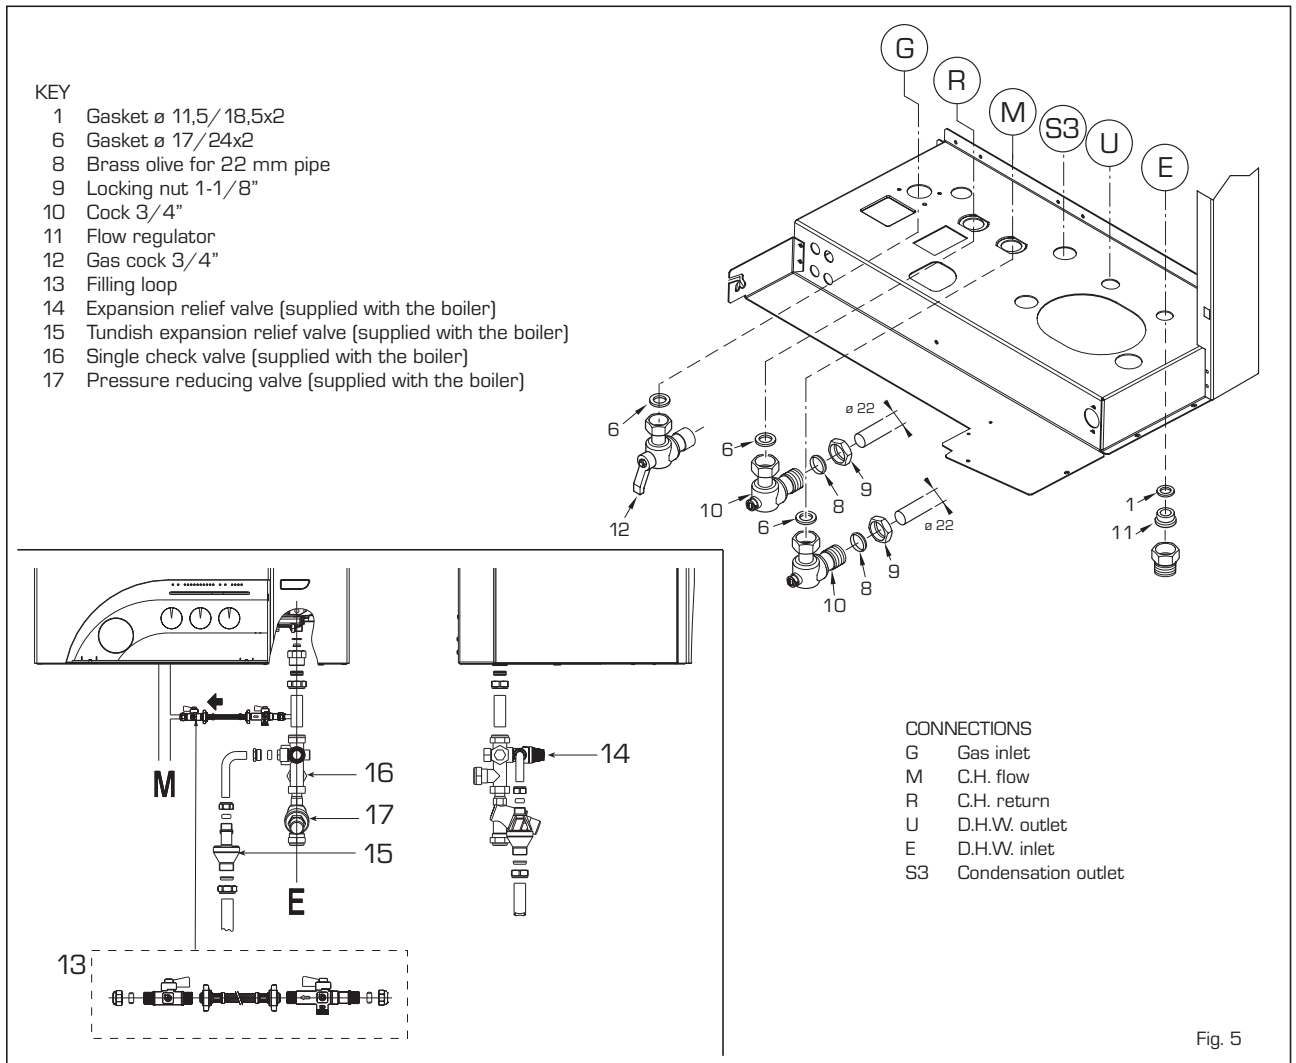
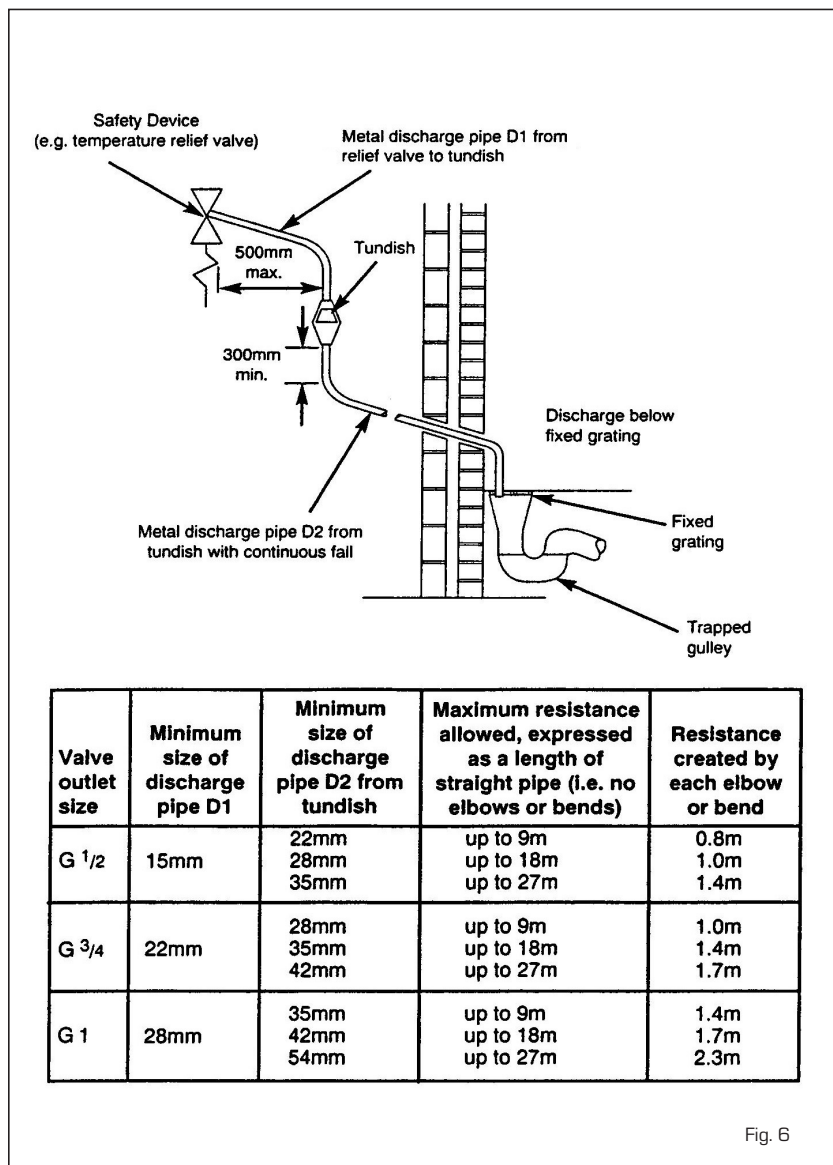

Fig. 5
Fig. 6
2.3 HOW TO FIT C.H. AND D.H.W. FITTINGS AND GAS COCK (fig. 5)
- Fit the two isolation valves (10) using the
Fit the supplied; pressure reducing valve (17), check valve (16), and expansion relief valve assembly (14) with its associated tundish (15), in the D.H.W. supply to the appliance, the flow from this assembly should be connected to the cold water inlet (E) via the flow regulator housing supplied. Ensure the 12 l/min flow regulator (11) and gasket (1) supplied, are fitted in the flow regulator housing. See fig. 5 and fig. 6 for installation details. It is important that no isolating valve is fitted between the expansion relief valve and the inlet to the D.H.W. tank. Any additional D.H.W. drain down tap fitted should be positioned as low as possible to ensure that at least 80% of the D.H.W. tank's capacity can be drained. If installed in a Hard Water area, then a suitable device should be fitted to treat the mains supply to the appliance (Contact your Water Distribution Company for advice on suitable devices). Fit the quarter bend (2) to the hot water outlet (U) using the gasket supplied (1).
- GAS CONNECTION (C)
- The appliance is equipped with an internal by-pass that operates with system heads (H) greater than 3 m. The maximum flow through the by-pass is about 300 l/h. If thermostatic radiator valves are to be installed, at least one radiator should be without a thermostatic valve (usually the bathroom radiator).
- A sealed system must only be filled by a competent person using one of the approved methods shown in fig. 6. The system design should incorporate the connections appropriate to one of these methods.
See fig. 6 for example of the discharge pipe(s) for the temperature and pressure relief valve, and expansion relief valve terminations. Note: it is permitted to connect discharge pipes together provided that the joint pipe is sized to accommodate the combined flow.
See fig. 6 for example discharge pipe terminations.